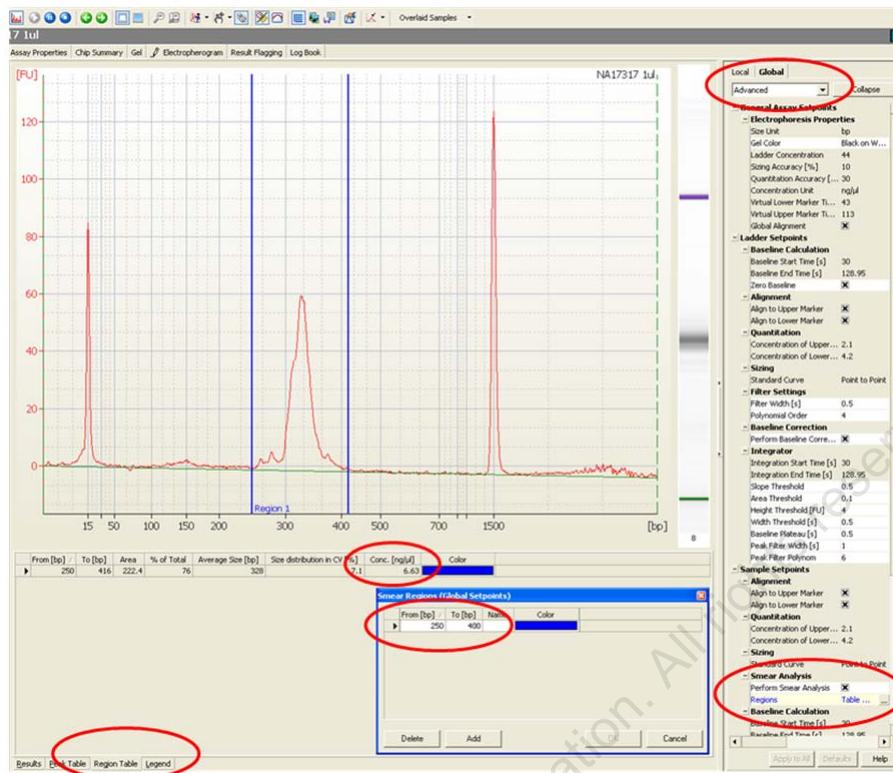

Figure 8 Example of PCR product pool quantitation using an Agilent 2100 BioAnalyzer with a DNA 1000 Chip.
- 3 Define a region of interest in the electropherogram to determine the PCR product library concentration (See Figure 8 on page 164).